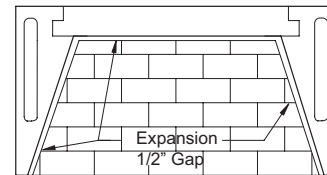

FIGURE 76
3. Start the firebrick at the front edge of the floor of the Isokern firebox, proceeding inward toward the back. Let the floor brick gap approximately 1/2" off the back wall and side walls. This air space allows heat expansion of the firebrick and is to be left empty of mortar. **(Figure 76)**